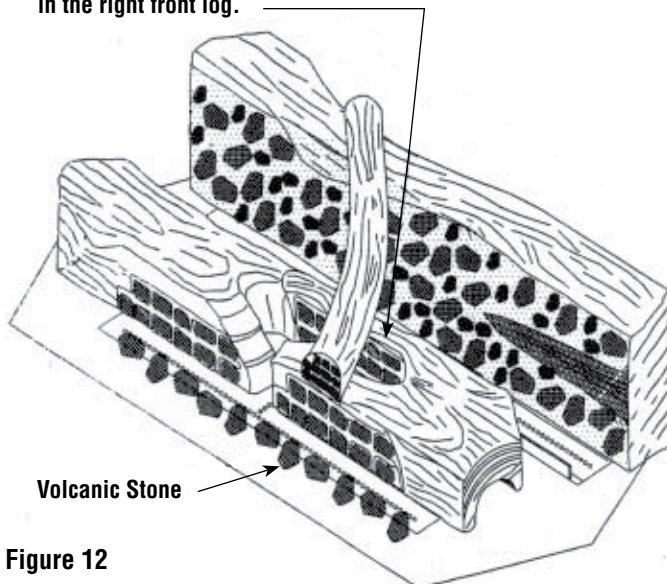

Figure 12
- Place the volcanic stone one high in front of the front burner tube (see Figure 12). Take care not to cover all the burners ports. Any extra volcanic stone may be placed at the ends of the front logs, off the burner. Place small pinches of rockwool (embers) on top of the volcanic stone.